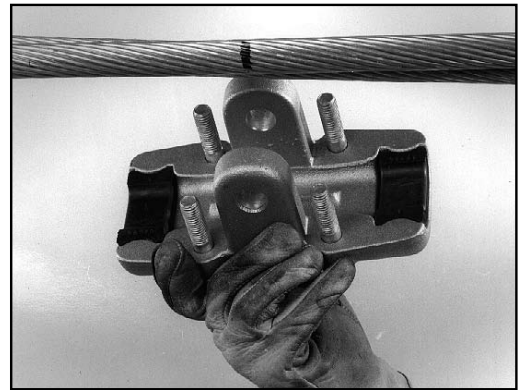

FIGURE 3 - ALIGN BASE WITH MARK ON T2
- 2.02 Align the center of the CUSHION-GRIP Clamp base (bottom unit) with the mark on the T2 conductor. (Figure 3)